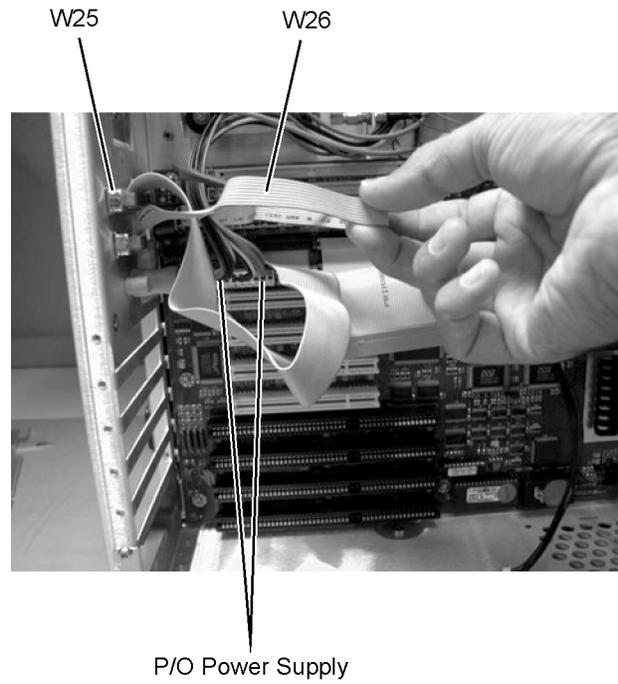

Figure 4-44. W25, W26, and Power Supply Cables
- 11 Refer to Figure 4-44 through Figure 4-47 for cable connections.